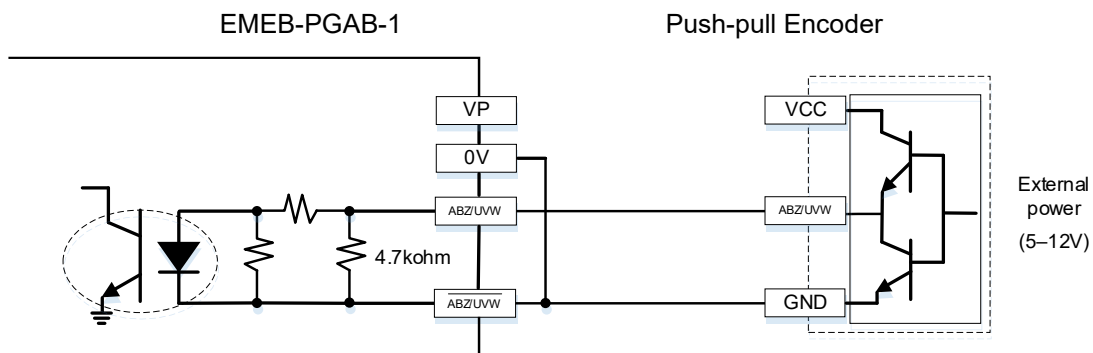

Figure 3-28
3. Push-pull output encoder application: Each set of input current is 5–15 mA. If input voltage uses 12V power, connect the encoder power externally. See the PG wiring Figure 3-28 below.